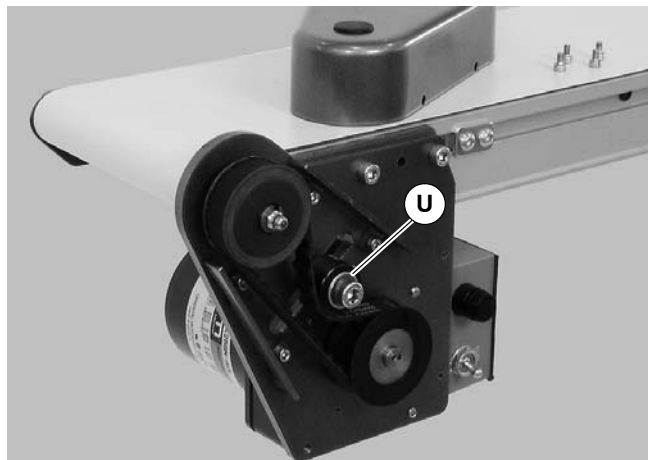

Figure 15
2. Loosen tensioner (U of Figure 15).
4. Loosen tensioner (U of Figure 15).